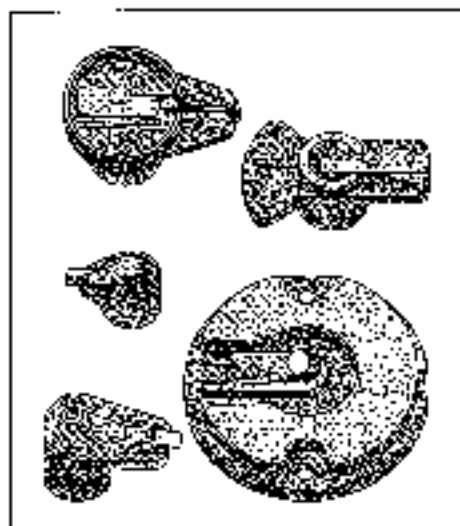

Figure 5-14:
- ②① The rotor (see Figure 5-14) sits atop the distributor shaft inside the distributor. As the distributor shaft turns, the rotor rotates with it and points toward the terminal at the base of each spark plug wire so that each plug can fire in the correct order. For example, when it's pointing at the terminal of the wire leading to your Number 1 spark plug, it directs the current to that spark plug at precisely the time when the fuel/air mixture in the Number 1 cylinder is waiting to be exploded.